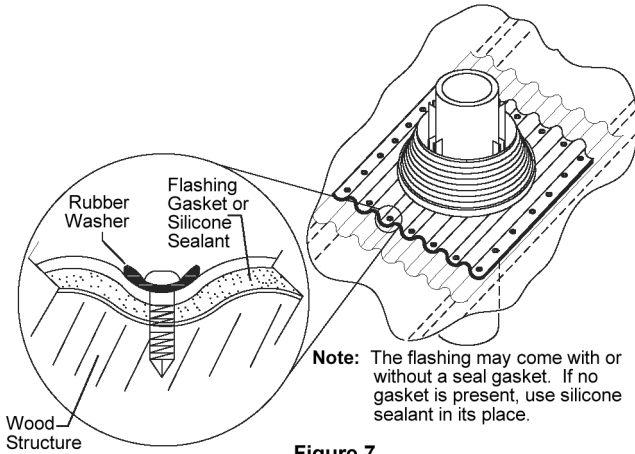

Figure 7
- Install the rubber boot flashing down over the sleeve and secure to the roof, using #9 x  $1\frac{1}{2}$ " Truegrip wood screws (Item 5). See Figure 7 and Note 3.